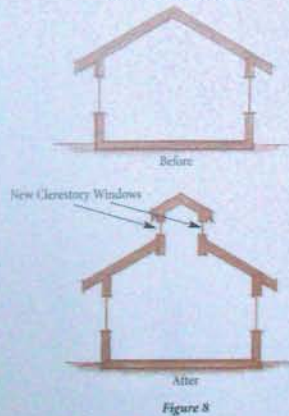

Figure 8
- Add or enlarge windows or add a skylight (see sidebar, Skylights, on page 51), a light well, clerestory windows, or even an atrium. The most effective way to enlarge a window is to increase its height. If you plan to add openings in a solid wall, inside or out, check with a professional to make sure you aren't weakening the structure (see figure 8).